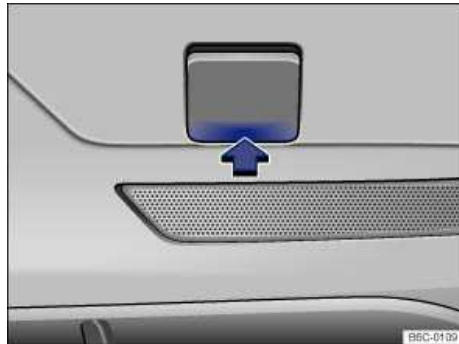

Fig. 178 In the right rear bumper: Removing the cover.
- Push on the cover at the lower area ⇒ fig. 178 (arrow) so that it pops out.
- Position the lower tab of the cover ⇒ fig. 178 into the opening in the bumper and carefully push on the upper area of the cover until it has locked in place.